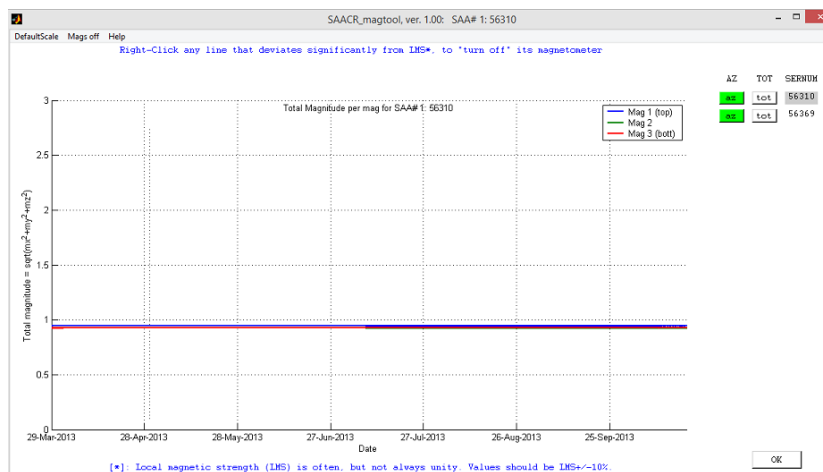

Figure 5.31: The 'Magtool' with the 'tot' button selected.
- Only clickable when **'tot'** is clicked. Figure 5.31